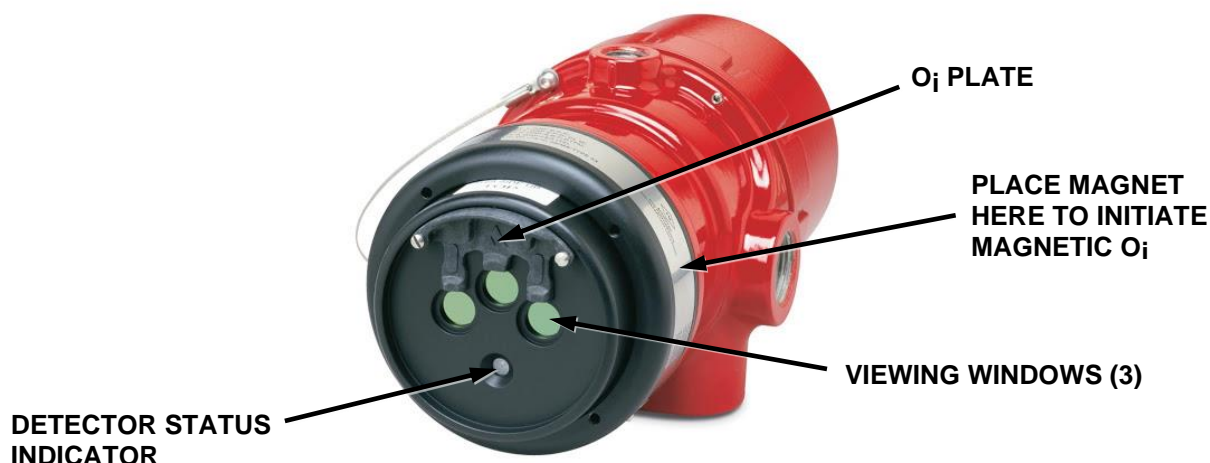

Figure 1 – Front View of the X3301
1. Do the following for each Det-Tronics X3301 UV detector (Figure 1):